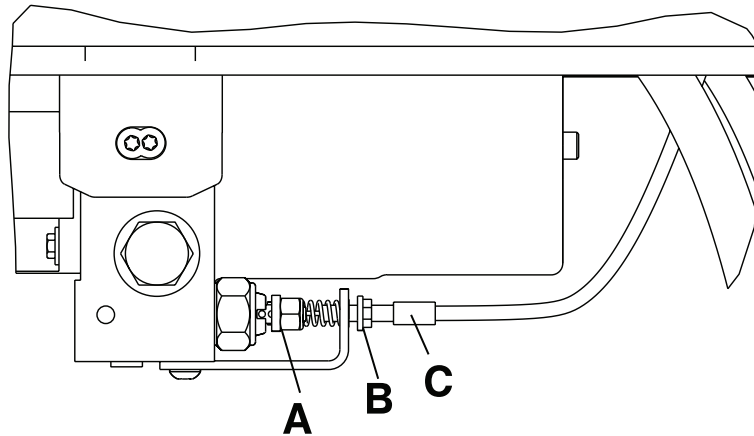

Figure 6: Manual release cable
2. Make sure that the manual release cable is intact (A). (Figure 6 on page 35).
3. Using a 10 mm combination wrench, loosen the cable lock nut (B). (Figure 6 on page 35).
4. Using an 8 mm combination wrench, adjust the tension on the manual release cable so it just starts to touch the manual release dual pull bracket (C). (Figure 6 on page 35).